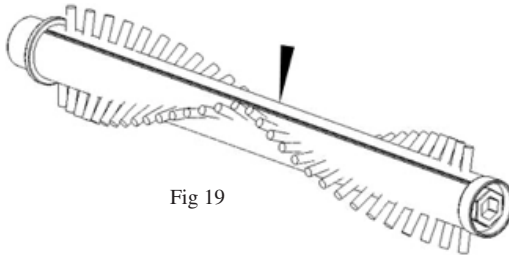

Fig 19
9. Scrape along the locating slot of rolling brush with blade (see Fig.19) to cut the hair and clean, then install the Floor brush well in position, after it, fasten the Release button of rolling brush.